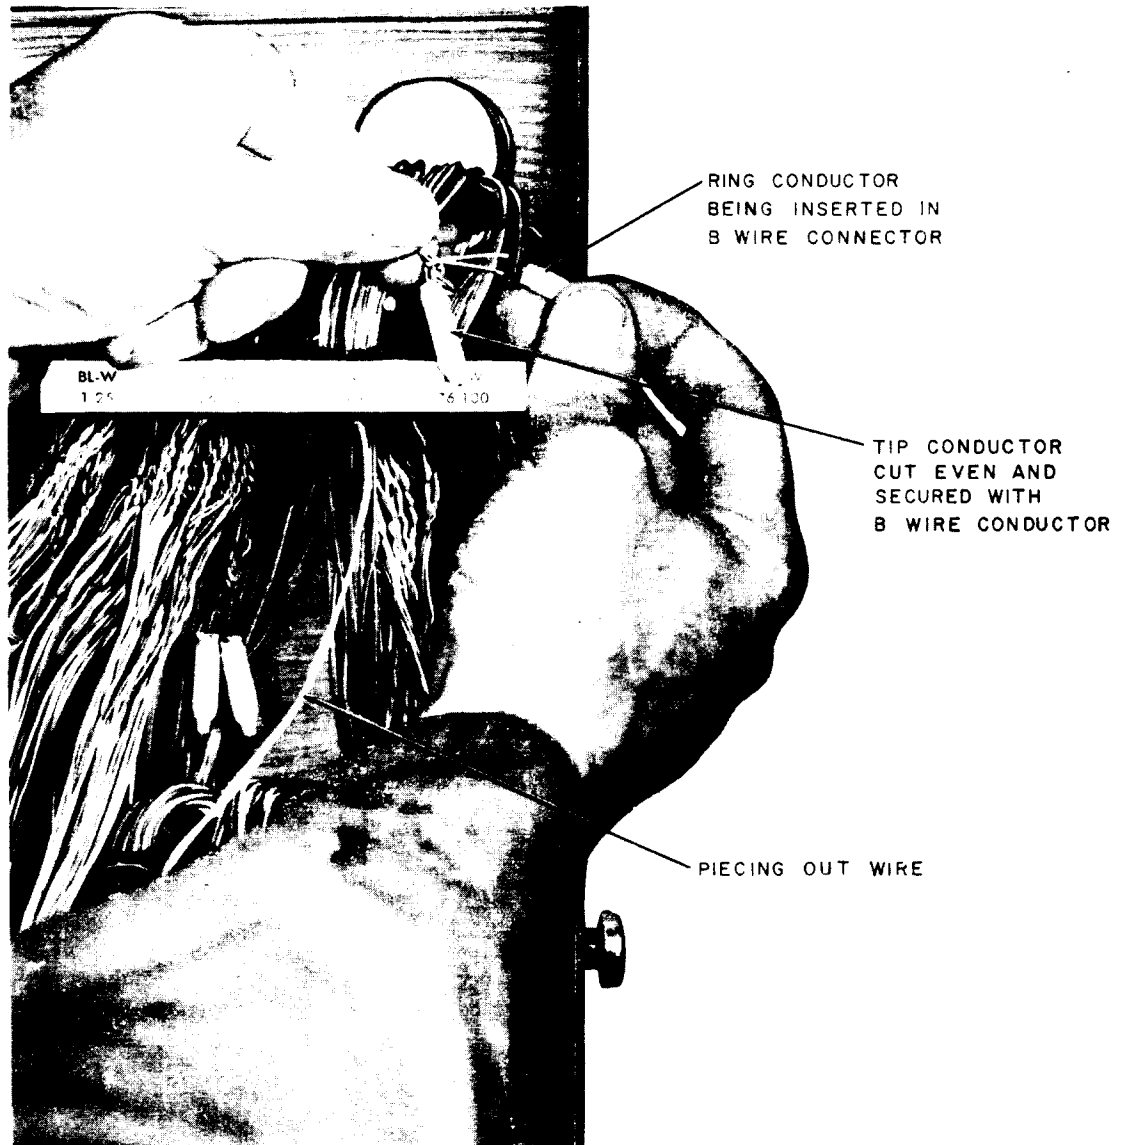

Fig. 12—Piecing-Out *IN* Cable Pair
- 6.02** The procedures for piecing-out the **IN** cable pair (Fig. 12) are identical to the procedures outlined in 6.01, except cross-connecting wire may be used as the piecing-out wire if no wire having the same-colored insulation or gauge as the **IN** cable pair is available. **Never use an odd-colored wire.**